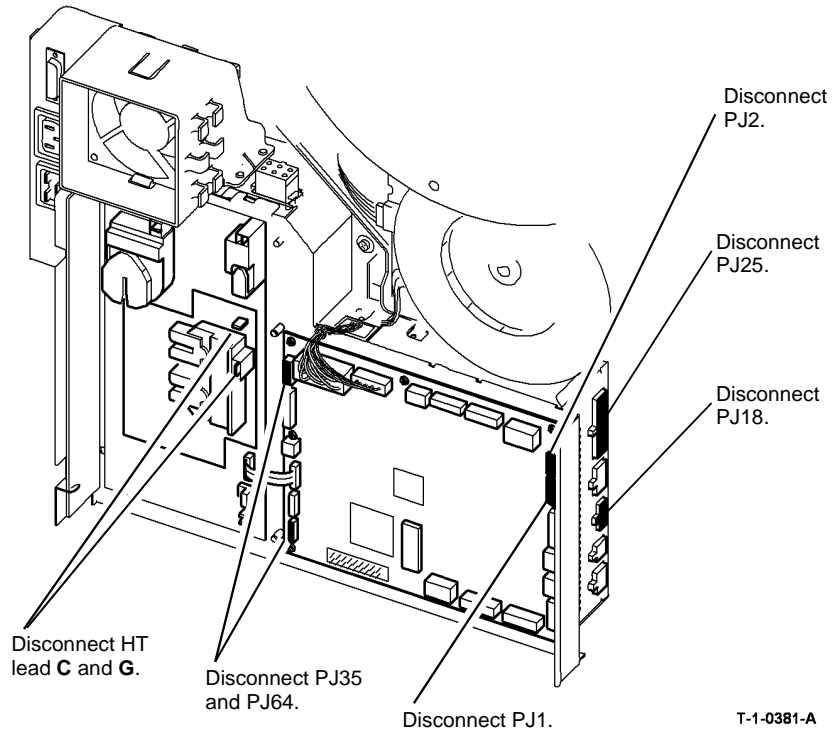

Figure 3 Power and control assembly
12. Disconnect PJs on the power and control assembly, Figure 3.